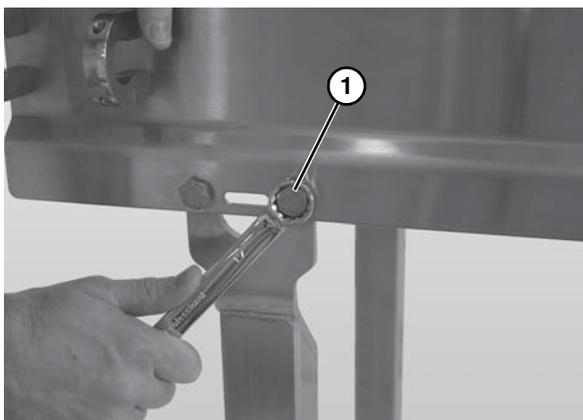

Figure 12
2. Attach the stands to the frame (Figure 12, item 1).